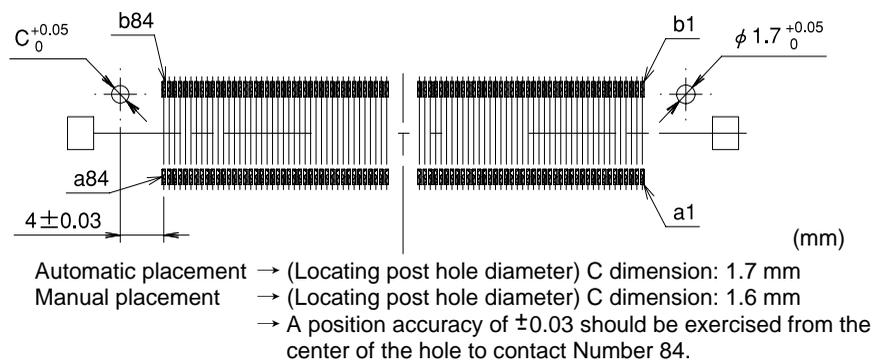
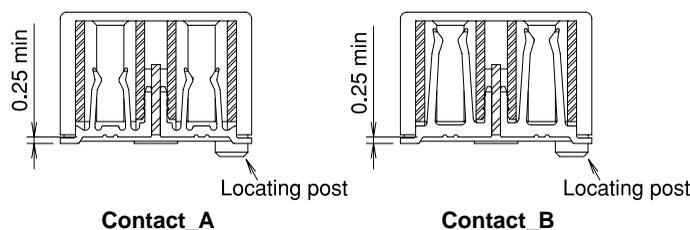

Fig. 1 IT1-168S-SV Recommended Solder Land Pattern
Fig. 2 Cross section of IT1 receptacle
When placing the receptacles on the Printed Circuit Boards using automatic mounting equipment or manually, assure that the correct diameters of the holes (Fig. 1) are through the entire thickness of the board.
The contacts of receptacle assembly are exposed on the bottom surfaces. The exposed areas of the contacts are a distance of 0.25 mm minimum from the surface of the Printed Circuit Board, on which the receptacle assembly is placed (Fig.2). Consideration should be taken not to place or assure insulation of conductive traces under the receptacle assemblies.
- Fully insert the tools into each end of the receptacle assembly (Fig. 1) assuring that they will be over the hold areas of the Transmission Module frame. Ref. Fig. 2